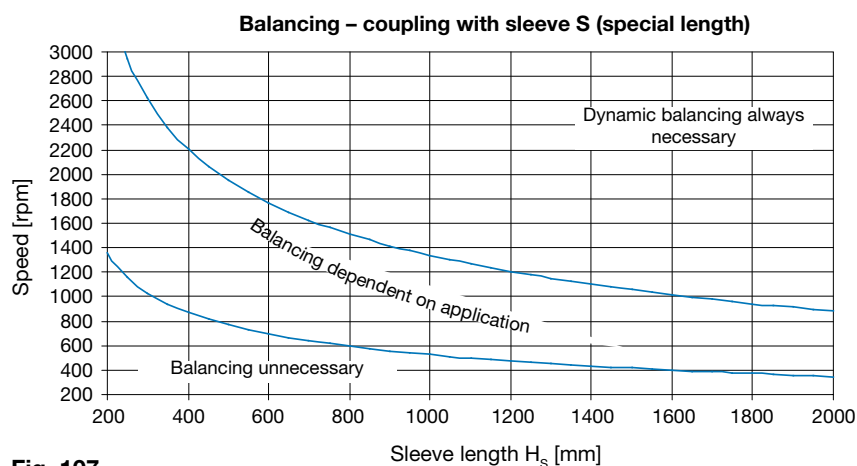

Fig. 107
- Length of special sleeve (Fig. 107)